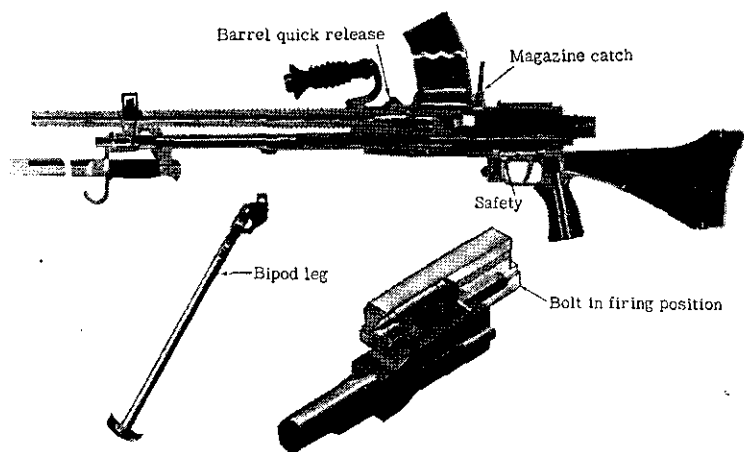

Figure 62.—Diagrammatic cross section of Model 96 (1936) 6.5-mm light machine gun, showing also various parts.
(1) *Safety*.—The safety (fig. 62) is located on the left side of the trigger housing in front of and above the trigger. In the horizontal position it is set to “fire”; in the vertical position, to “safe.” At “safe” the trigger mechanism is locked by the surface of the pin preventing movement of the trigger. At “fire” the cutaway portion of the pin allows the sear to move.